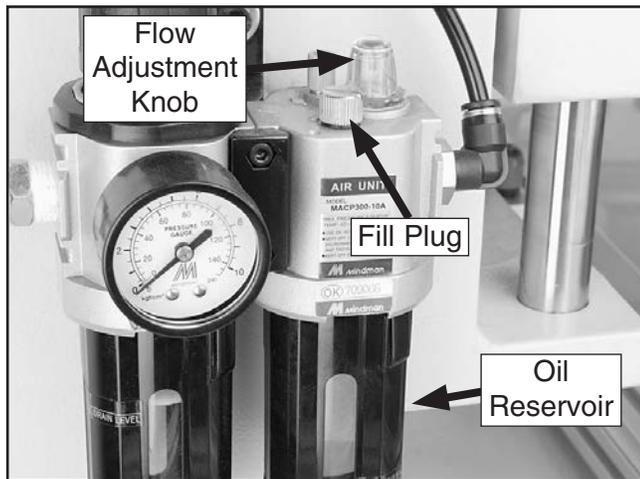

Figure 33. Air lubricator unit maintenance components.
1. Remove the fill plug from the top of the air lubricator unit (see **Figure 33**).